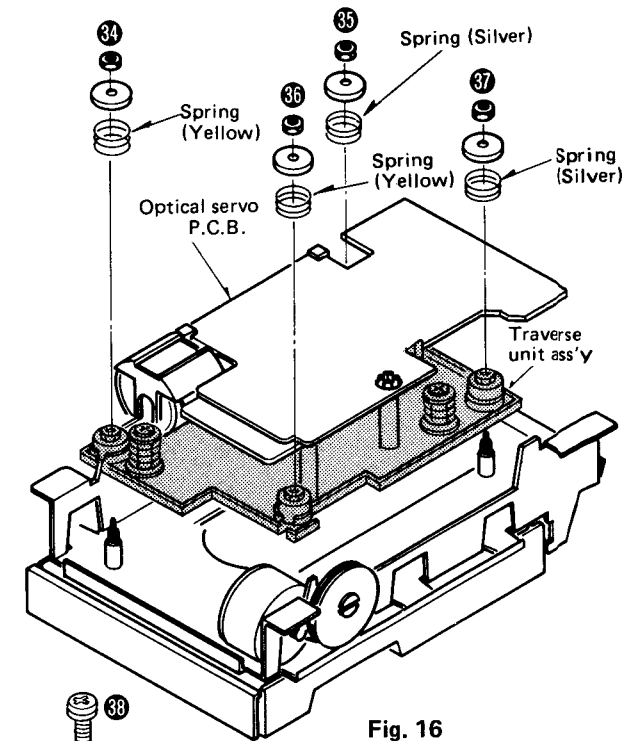

Fig. 16
4. Turn over the traverse unit and remove the nuts [Fig. 16 : 34 ~ 37], then the traverse unit ass'y can be removed.